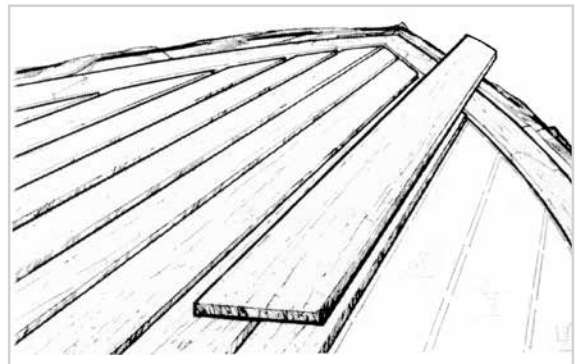

Figure 6-4 Cut and fit the teak strips. Mask off and protect surrounding surfaces.
1. Plan the location and pattern for the layout of the teak strips (Figure 6-4). Cut the strips to fit and mark them for reference as necessary. Mask off the application area and cover the surrounding area with plastic for protection against spills.